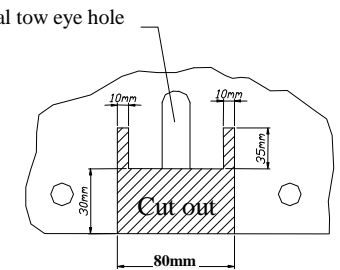

Fig. 4
8. Reinstall plastic cover after cut her fragment as shown figure 4.
9. Through hole (pos. B) and original tow eye twist on bolt M10x100mm using special scathing washers (pos. 5).
10. Fix body of the automat (pos. 7) and the socket plate (pos. 3) using bolts M12x25mm (pos. 10) from accessories. Place tow-ball (pos. 2) according to supplied instruction.